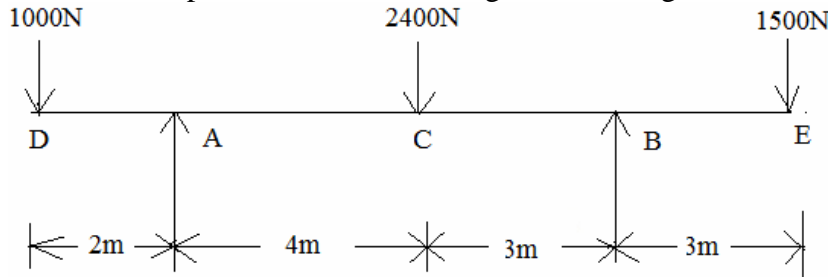

Fig.1
2. Calculate the reactions at the supports A and B of the beam shown in Fig.1. Draw the B.M.D and S.F.D. Determine also the points of contra flexure within the span AB and show their positions on the bending moment diagram. [15]